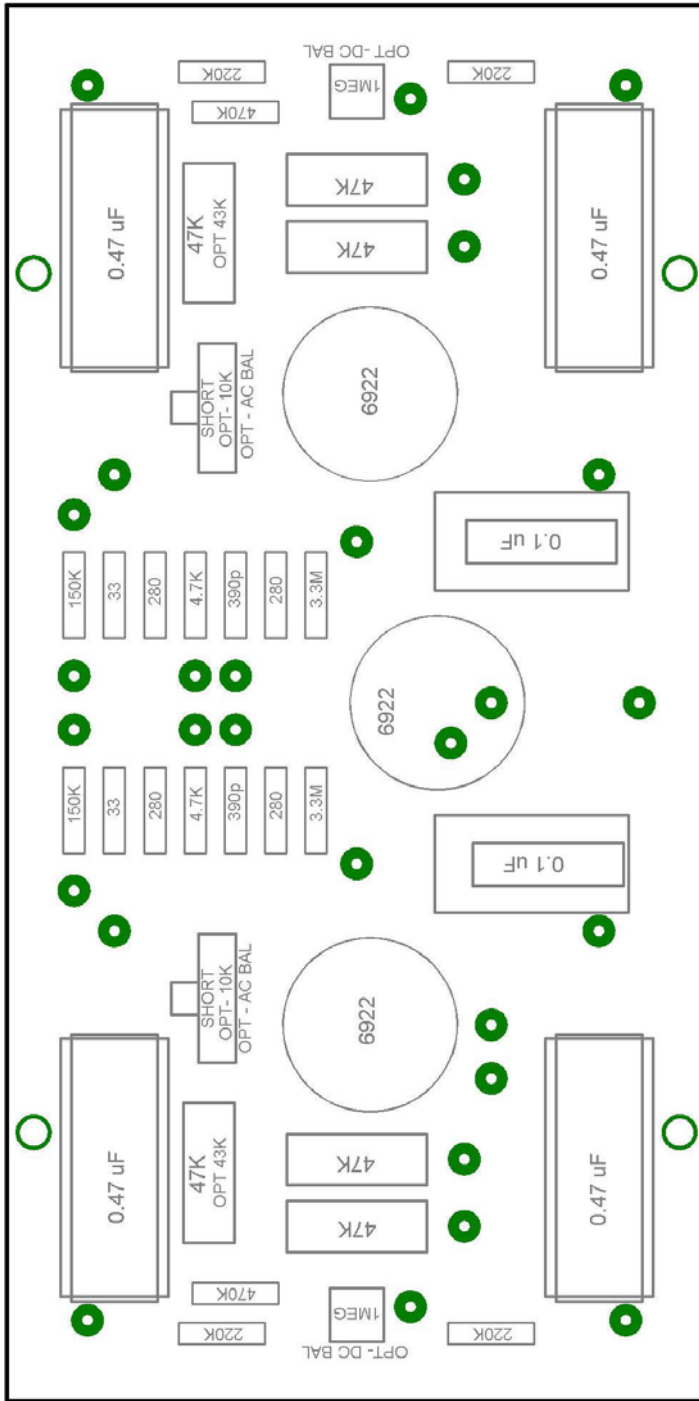

Figure 1B – PC-3U Assembly (Component Names)
2. **DC Balance Option** - If you have purchased the DC BAL option, install the two small square 1 Meg Ohm potentiometers (P1 and P2 as shown in Figure 1B) near the short edges of the PC Board. Adjust each pot for center of its rotation.
3. **AC Balance Option** – If you have purchased the AC Balance Option, install the two 10K vertical potentiometers as shown in figure 1B. If you have not purchased the AC BAL option place a shorting wire across the outer holes of the triangle formed by the three holes for the AC BAL pot. This shorting wire will be parallel to the long edge of the pc board.
4. **AC Balance Option** – If you have purchased the AC balance option, install the two 43K Ohm / 3 Watt resistors as shown in Figure 1B (R8 & R21 locations). If you have not purchased the AC Balance Option – skip to the next step.
5. Install the Six (6) 3 Watt metal Oxide resistors (Reference Figure 1B - R1, R7, R14, R20, and R8 & R21 if you have not installed them from the previous step). You should also gently bend the leads of these resistors similar to the ½ Watt resistors (but of course with a greater radius). But unlike the ½ Watt resistors, the 3 Watt Resistors should be spaced away from the plane of the PC Board by 1/8” to allow for heat dissipation.
6. Install the 3 nine (9) pin miniature tube sockets (at positions V1, V2, and V3). Be careful to insure that the leads fully extend thru the PC Board and that you have sufficient tab length to obtain a solid solder connection.